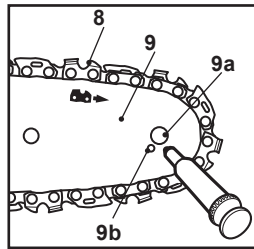

Fig. 36
**NOTE:** It is not necessary to remove the saw chain (8) to lubricate the sprocket wheel (9a). Lubrication can be done on the job.
2. Using a disposable lube gun, insert the needle nose into the lubrication hole (9b) (Fig. 36) and inject grease until it appears at the outside edge of the sprocket wheel (9a).
3. Rotate the saw chain (8) by hand. Repeat the lubrication procedure until the entire sprocket wheel (9a) has been greased.